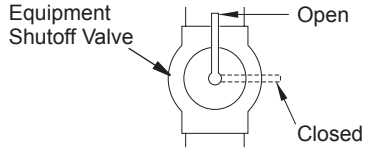

Figure 15 - Equipment Shutoff Valve
1. Close equipment shutoff valve (see Figure 15).
1. Open equipment shutoff valve (see Figure 15).
- Close equipment shutoff valve (see Figure 15, page 15).